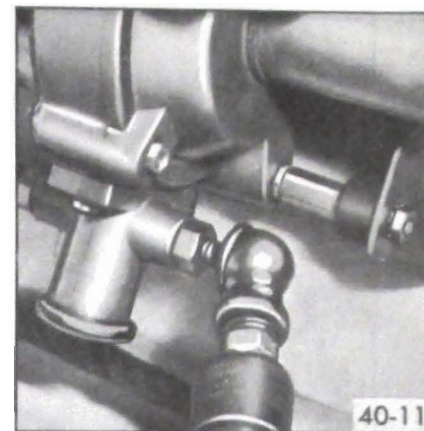

Figure 40-12 - Filling System Through Service Valve
3. Lower car and inflate system through service valve on compression. See Figure 40-12. Load rear suspension and allow car to come to level position. Unload rear suspension, this will put the minimum 8 to 15 psi air pressure in the Superlifts.